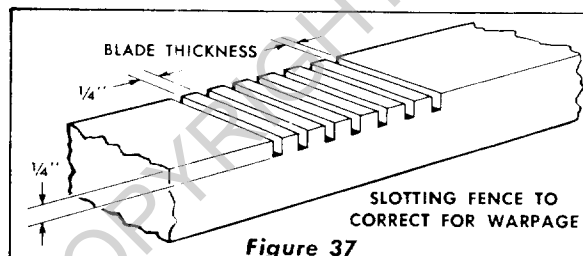

Figure 37
5. In the event that the fence is warped and cannot be straightened by tightening the table clamps proceed as follows: Remove the fence and replace with a temporary fence made from a straight piece of scrap lumber. Proceed to cut slots in the original fence where the gap between the fence and front table was determined to be the greatest. See Figure 37 for slotting. Replace the fence, after slotting, behind the front table with the slots toward the rear and tighten the table clamps.